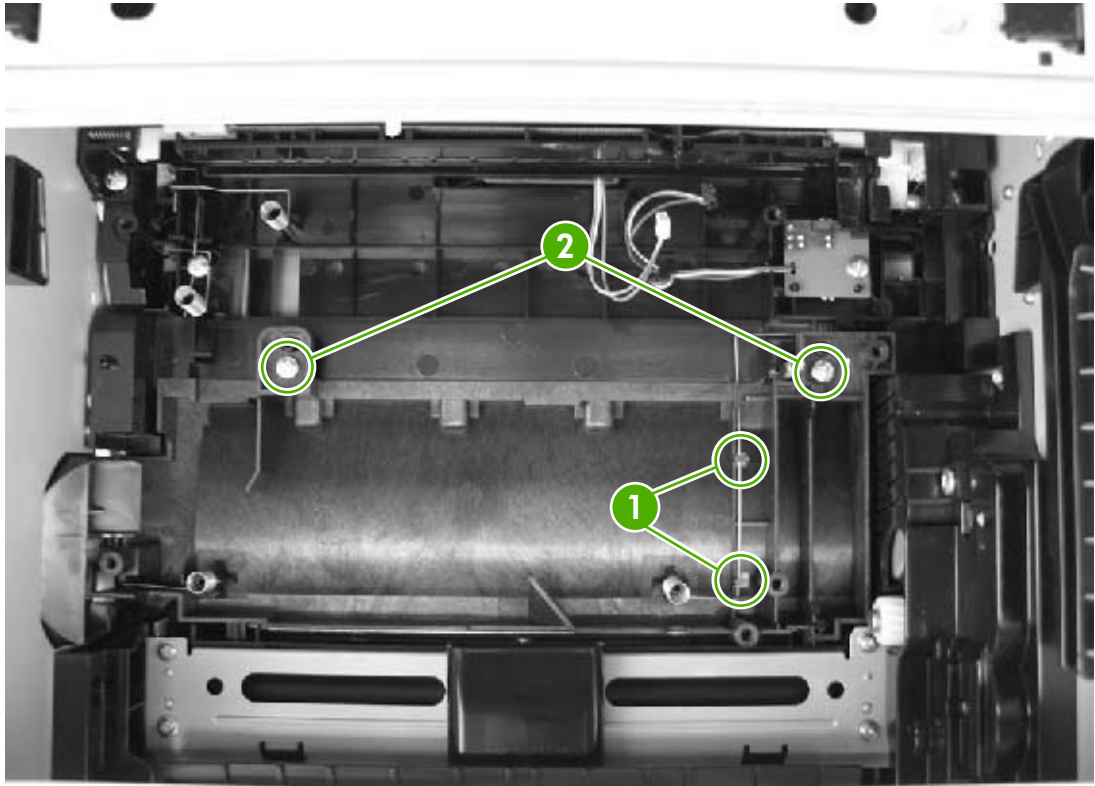

Figure 5-77 Removing the feed-guide assembly (1 of 2)
3. Loosen the grounding wire from the routing guides (see callout 1 in Figure 5-77 Removing the feed-guide assembly \(1 of 2\) on page 157).